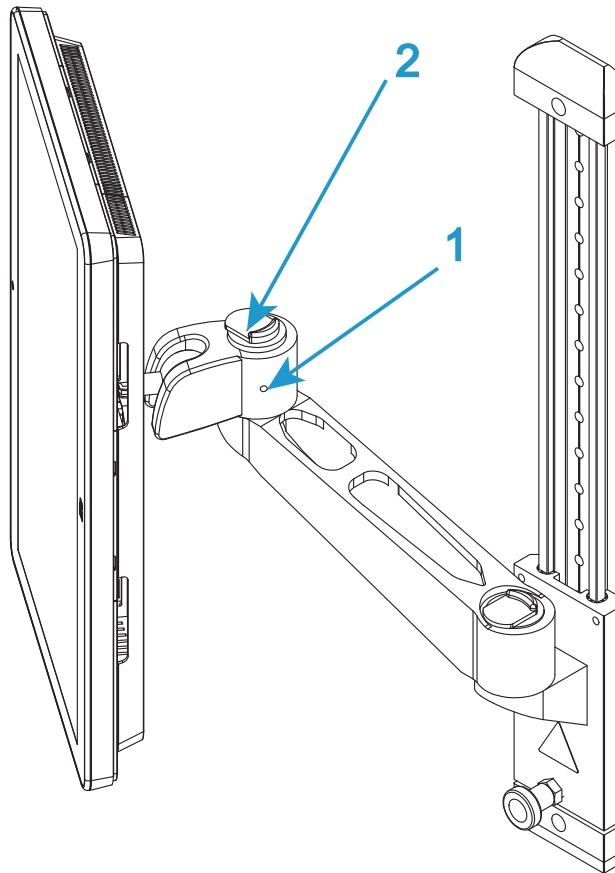
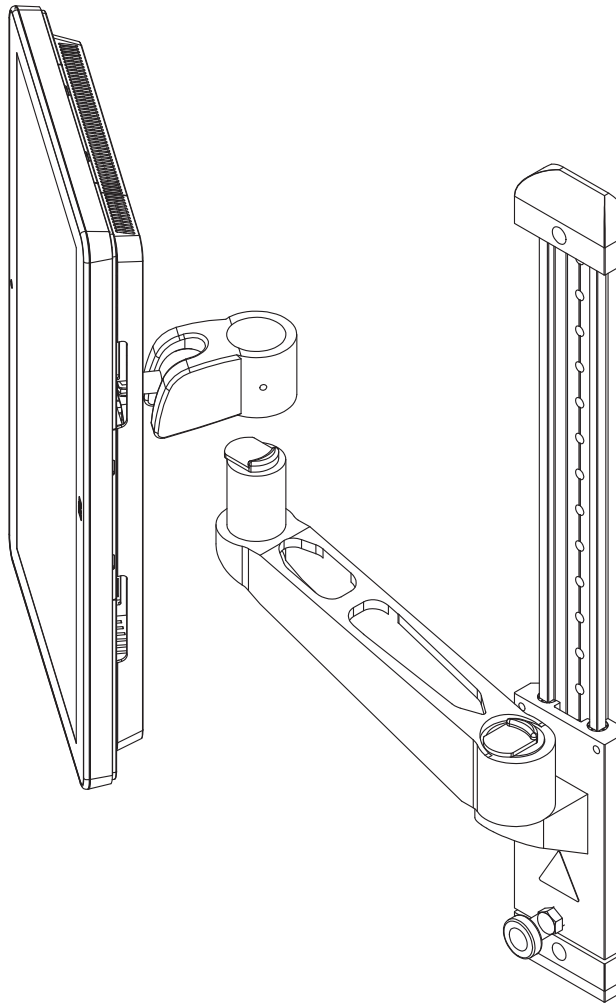

Figure 7. Mounting arm
Figure 8. Lift to remove
3. If necessary, loosen the set screw on the side of the “elbow” on the mounting arm (1 in Figure 7 on page 44).
4. Operate the release mechanism on top of the “elbow” (2 in Figure 7 on page 44) and lift the Bluehill® Operator Dashboard clear of the mounting arm (Figure 8 on page 45).